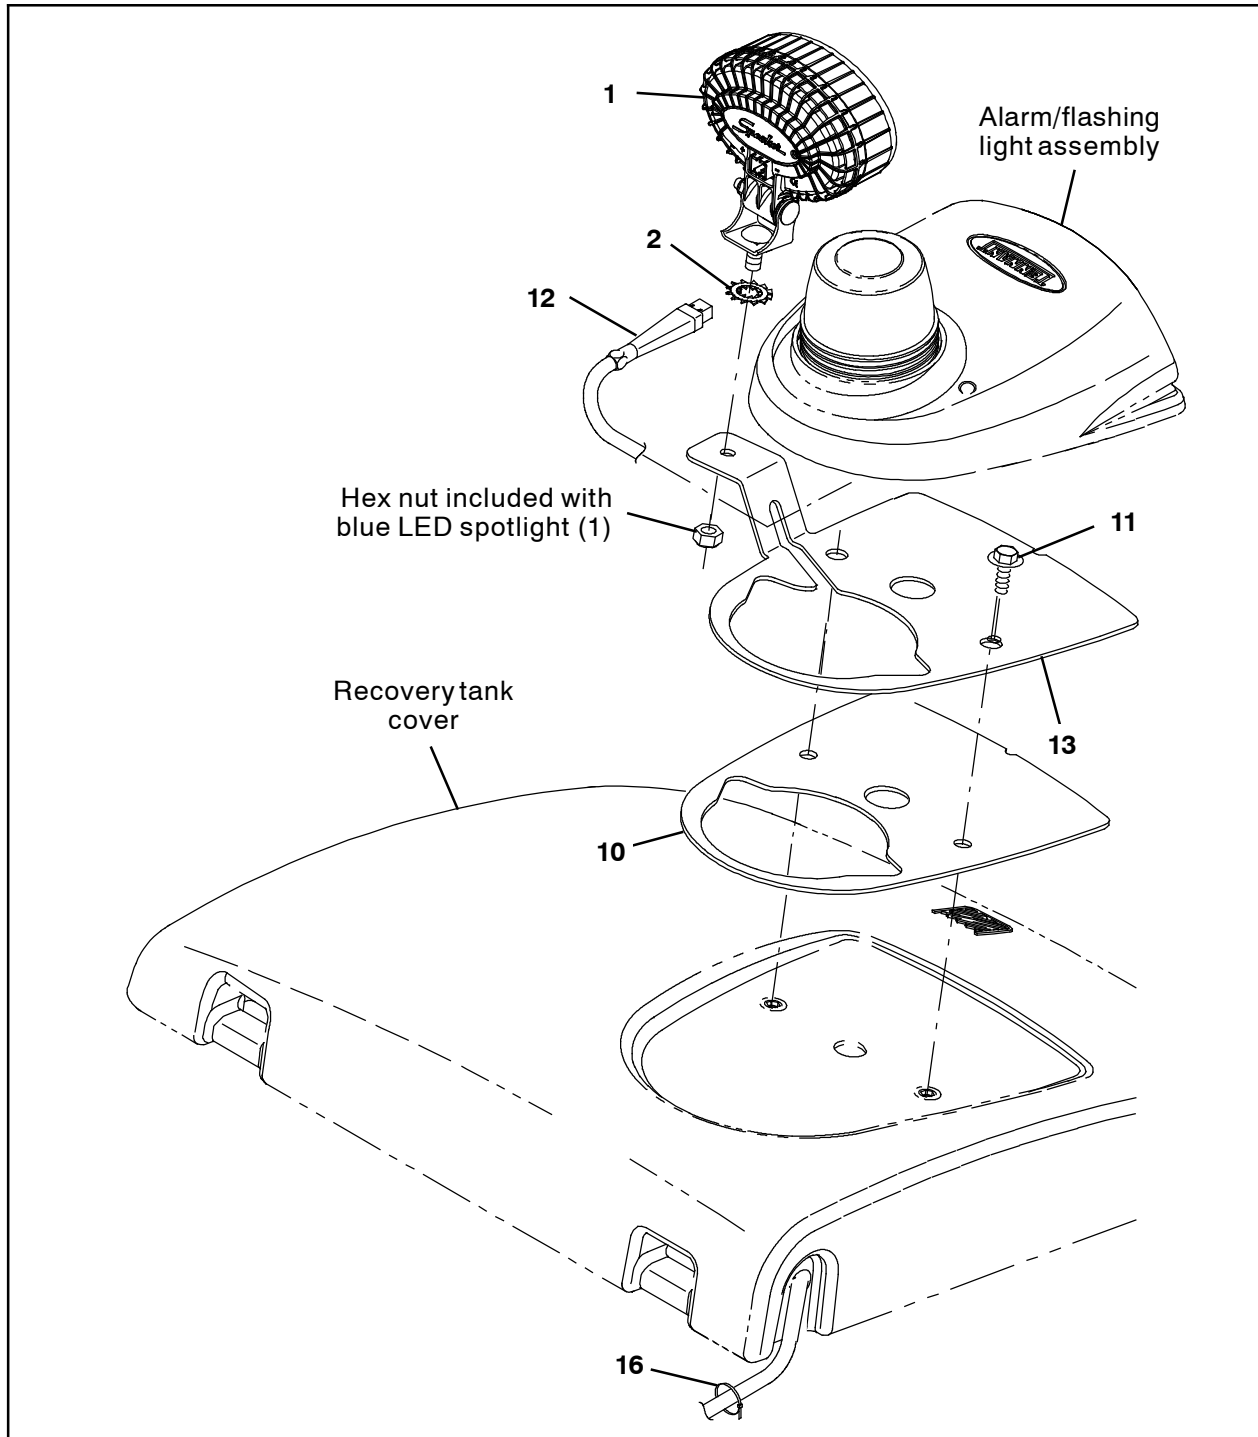

FIG. 18
43. Remove the backing from the module base gasket (10) and install the gasket onto the blue spotlight rear cover mounting bracket (13). (Fig. 18)
44. Use two SEMS M8 hex screws (11) to install the blue spotlight rear cover mounting bracket (13) onto the recovery tank cover. (Fig. 18)
45. Install the alarm/flashing light assembly onto the rear cover mounting bracket (13).
46. Remove the hex nut included with the blue LED spotlight (1) from the light. (Fig. 18)
47. Use the hex nut removed from the blue LED spotlight (1) in the previous step and a lock washer (2) to install the blue LED spotlight onto the rear cover mounting bracket (13). (Fig. 18)
48. Route the blue spotlight rear harness (12) through the notch in the blue spotlight rear cover mounting bracket (13) and connect the blue spotlight rear harness to the blue LED spotlight (1). (Fig. 18)